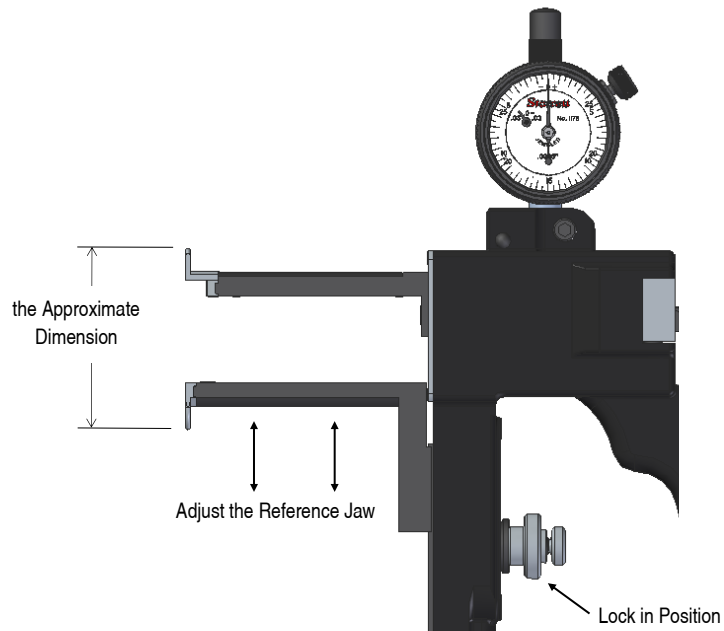

Fig.11
- *Fig. 11*, Adjust the reference jaw to the approximate dimension and lock in position.